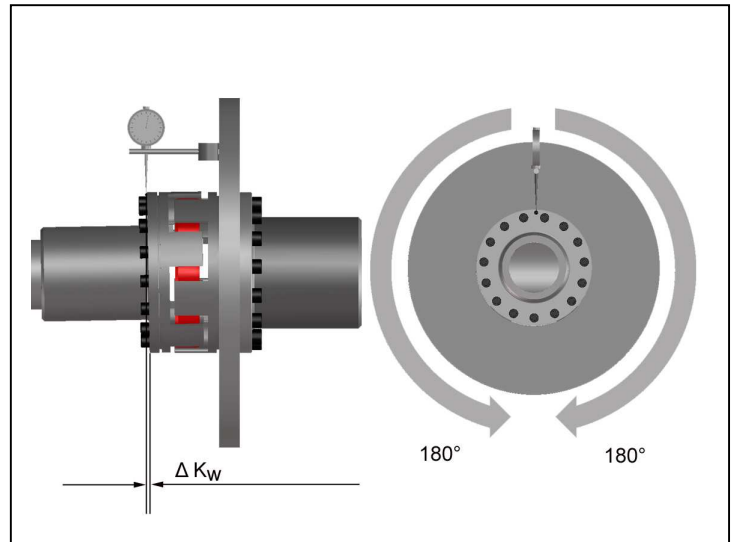

Fig. 9
- Measure one complete revolution (360°) on the face of the outer diameter. Determine the largest deviation  $K_{w1}$  and the smallest deviation  $K_{w2}$  (Fig 9). Calculate the angular misalignment: